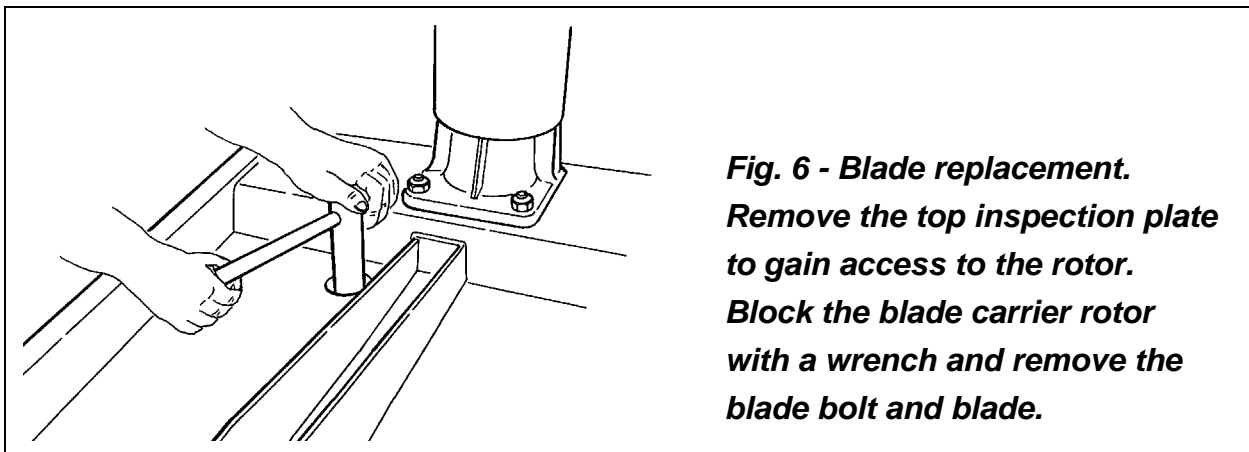

Fig. 6 - Blade replacement.
1. Remove the top inspection plate to gain access to the rotor (**see fig. 6**).